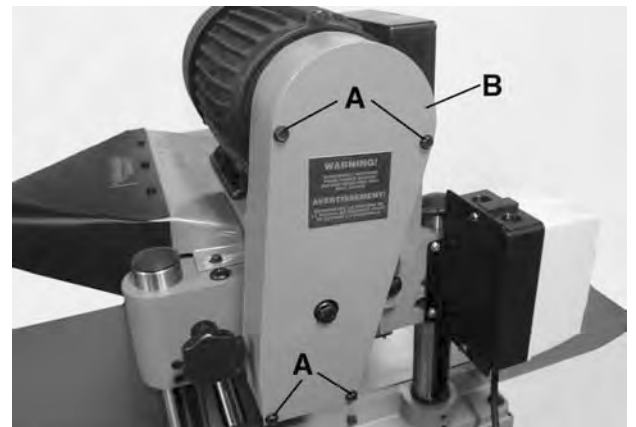
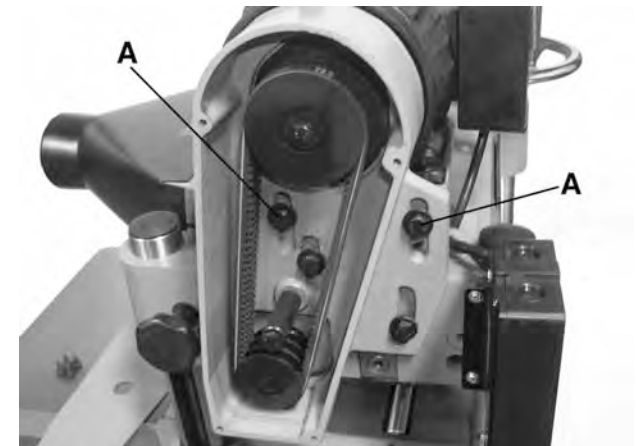

FIGURE 13
FIGURE 14
2. Remove the four hex. bolts (A) Fig.13 and remove the belt and pulley guard cover (B).
4. Loosen the two hex. bolts (A) Fig.14 and pry up on motor mounting plate until correct belt tension is obtained. Correct tension is obtained when there is approximately 1/4" deflection in the center span of the belts using light finger pressure. Hold the motor in place and retighten the two hex. bolts (A) Fig.14 and reinstall belt and pulley guard cover (B) Fig.13.